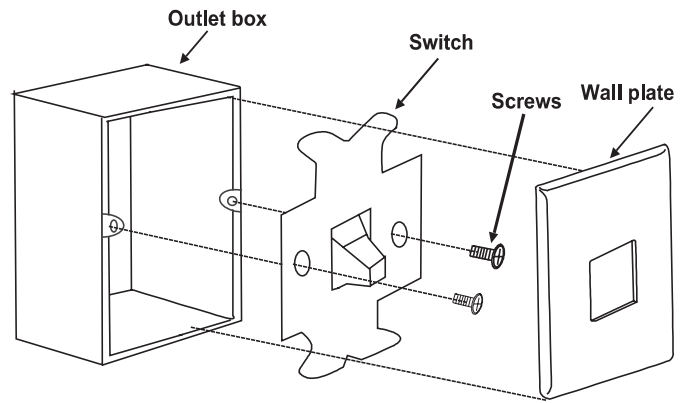

Figure 12
1. Remove the existing wall plate and switch. (Fig. 12)